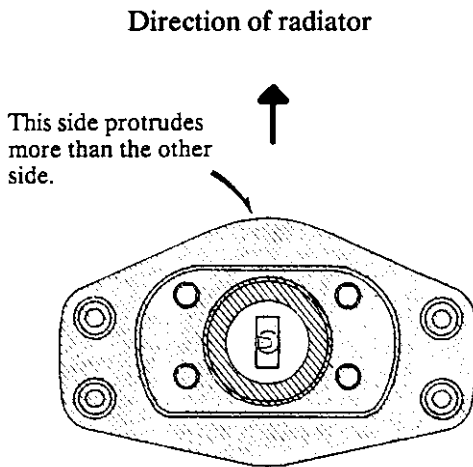

Figure 6-4 Appliace of Silicone Sealant to Surface of Radiator Bracket
2. Apply silicone sealant to the hatched area shown in Figures 6-4 thru 6-6, i.e., on the surface of the radiator bracket and the bottom of the antenna radiator.